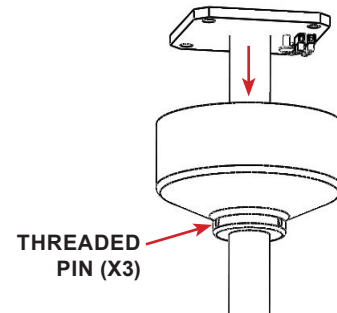

FIGURE 2.19 - Mount Base Cover
- STEP 1:** Loosen the threaded pins and slide the base plate cover off the tube. Refer to FIGURE 2.19